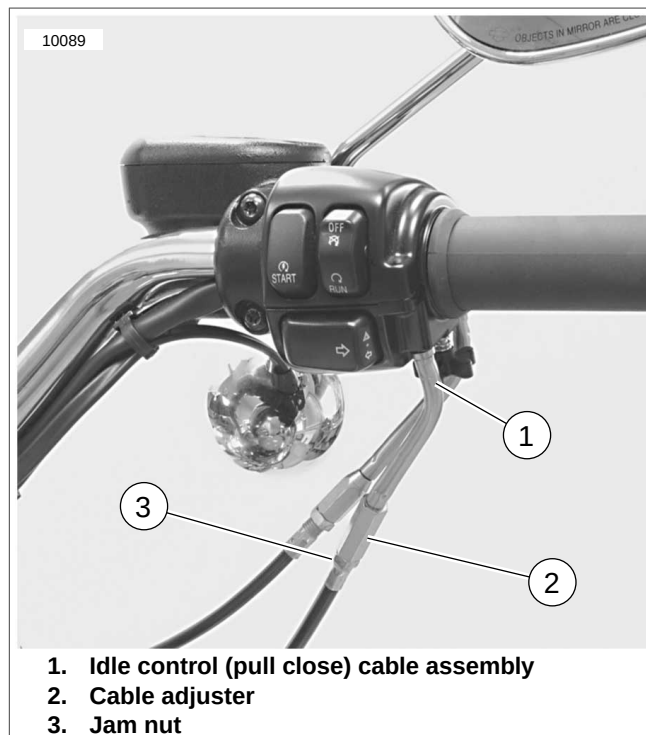

Figure 4-39. Idle Control Cable Adjustment
9. See Figure 4-39. Slide rubber boot off idle control cable assembly (1).
10. Loosen jam nut (3).